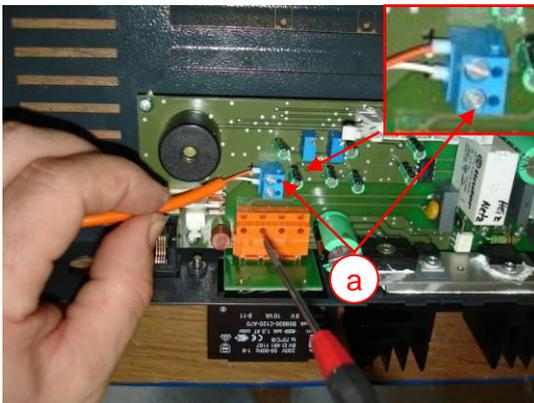

Fig. 26 – compensating wire connector
- Remove the compensating wire from connector by unscrewing (Fig. 26 a)